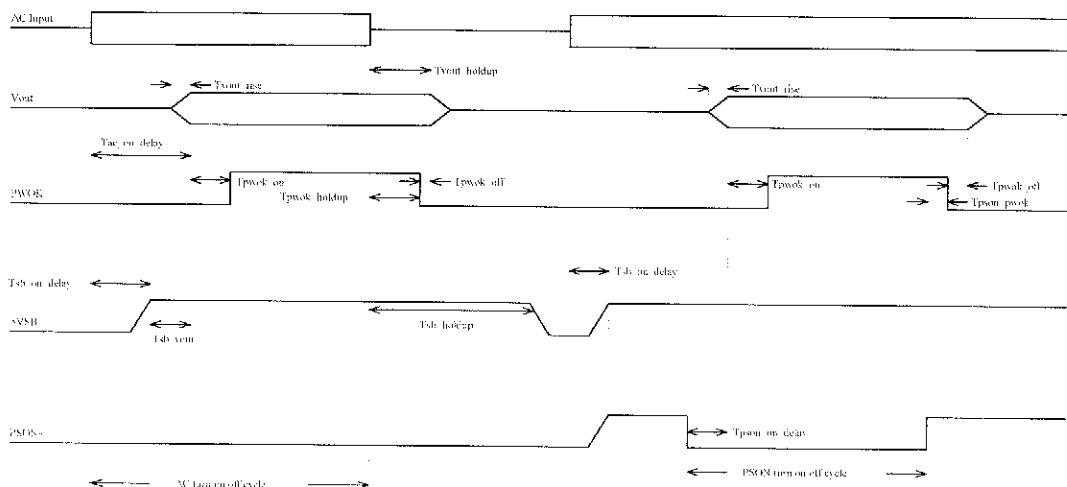

Fig.1
5.1 Power on (sec fig.1)
5.3 Power off sequence (see fig. 1)
6.1 Power good signal (see Fig. 1)